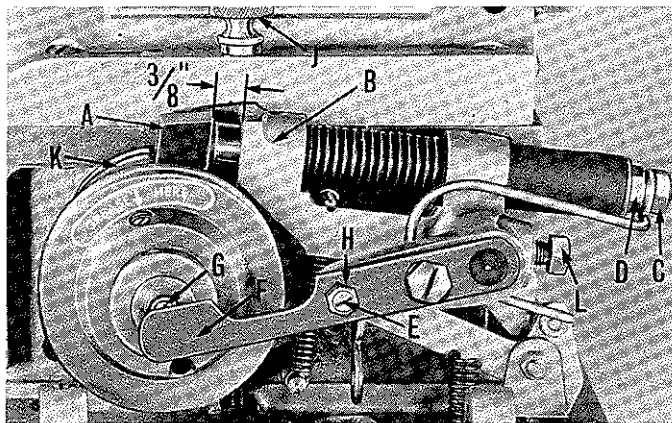
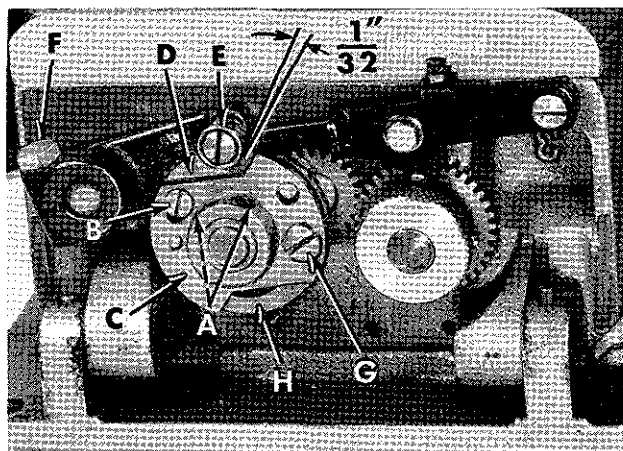
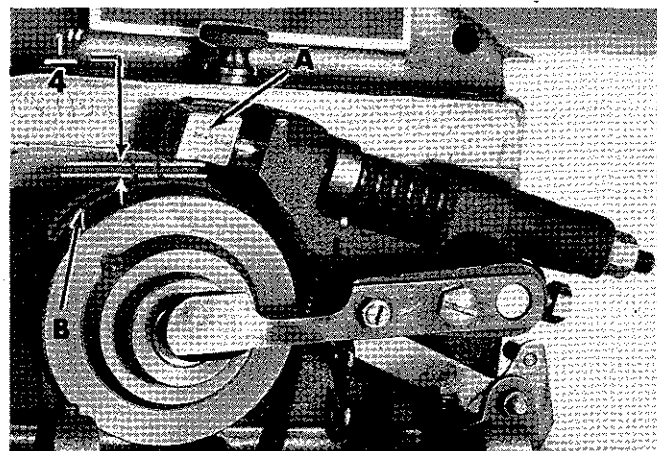
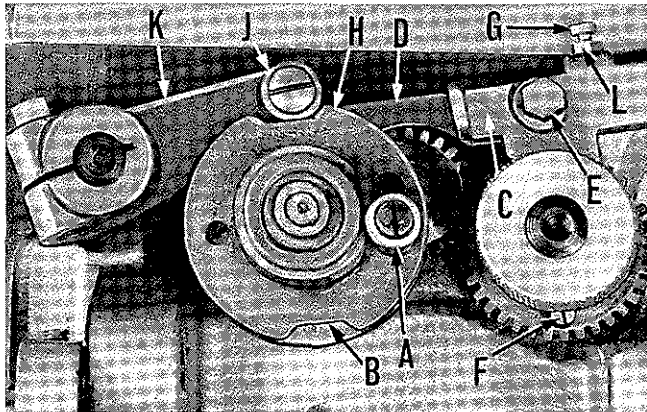

Fig. 1
Fig. 2A
Fig. 3A
Fig. 5
This position is that which is shown in Fig. 1 with the stop motion disc and pawl (K) against the plunger (A).
With the machine in stop position, the stop motion plunger (A, Fig. 1) should be set so that there is $\frac{3}{8}$ inch clearance between the bottom of the plunger and the plunger lever bracket (B). Loosen the back lock nut (C), and adjust the front nut (D) to obtain this setting. Lock the back nut. Adjust screw (E) in cam lever (F) so that there is $\frac{1}{32}$ inch clearance between ball (G) and the thin section of lever (F) when the pulley is pressed in towards machine. Lock screw with nut (H). Make sure that set screw (L) is securely tightened.
With the machine in stop position, loosen the two socket head set screws. (A, Fig. 2A) and screw (B). Rotate "left cam" (C) counterclockwise to the top of its elongated slot (as viewed in Fig. 2A) and tighten screw (B). Rotate cam (C) and "right cam" (D) as required to obtain 1/32 inch clearance between roller (E) and the front of slot in cam (D); tighten set screws (A).
Depress the treadle to take machine out of stop position, then rotate pulley two complete revolutions in operating direction. Release treadle and measure the distance between plunger (A, Fig. 3A) and the highest point on disc (B). The distance should be 1/4 inch. Adjustment can be made by loosening clamp screw (F, Fig. 2A) in the stop motion trip lever and moving lever up or down to attain specified clearance. Should it become necessary to move the lever down, depress the treadle while making adjustment. Retighten clamp screw (F).
- Step 1. With the machine in stop position, loosen screws (A, Fig. 2A) and screw (B). Advance "left cam" (C) by rotating it clockwise, SLIGHTLY, relative to the "right cam" (D). Retighten screws (A and B) after referring to NOTE 1 above.
- Step 3. Should disc and pawl (K, Fig. 1) stop short of plunger (A), (this can be checked by rotating disc towards the operator and if the plunger does not catch the disc and pawl, the machine has not reached its stopped position), denoting cam is advanced beyond proper setting. To correct: retard "left cam" (C, Fig. 2A) by rotating it counterclockwise, SLIGHTLY, relative to the "right cam" (D). Refer to NOTE 1 above, before securing screws (A and B).
NOTE: 2. With reference to (A, Fig. 5) under "STITCH SETTINGS", the stitch adjusting knob has been replaced by screw (G, Fig. 2A) which secures cam shoe (H) using the upper or lower hole in "left cam" (C), as applicable.
Depress treadle to take machine out of stop position, and rotate pulley two complete revolutions in operating direction. Loosen knurled screw (J, Fig. 1) and lay machine on its side.
Figure 5 shows the machine in stop position, and set for 12 or 16 stitches. The stitch adjusting knob (A) is at its low position at the bottom of the slot and the gap (B) is closed. To change to 6 or 8 stitches, simply pull out on the stitch adjusting knob (A) and raise it to the top of the slot. At this point, the gap (B) will be open.
When changing from 6 or 8 to 12 or 16 stitches, the machine must be in stop position with the stitch adjusting knob (A, Fig. 5) towards the front. Pull out on the stitch adjusting knob (A) and move it to the bottom of its slot as shown in Fig. 5. Gap (B) will now be closed.
When changing from 6 or 8, or 12 or 16, to 24 or 32 stitches, the machine must be in stop position with stitch adjusting knob (A, Fig. 5) to the front. If the machine is in the 6 or 8 stitch position, pull out on the stitch adjusting knob (A) and move it to the bottom of its slot. Check position of screw (F). It should be at the bottom as shown in Fig. 5. If it is not, the machine will have to be re-cycled once to bring screw (F) into proper position.